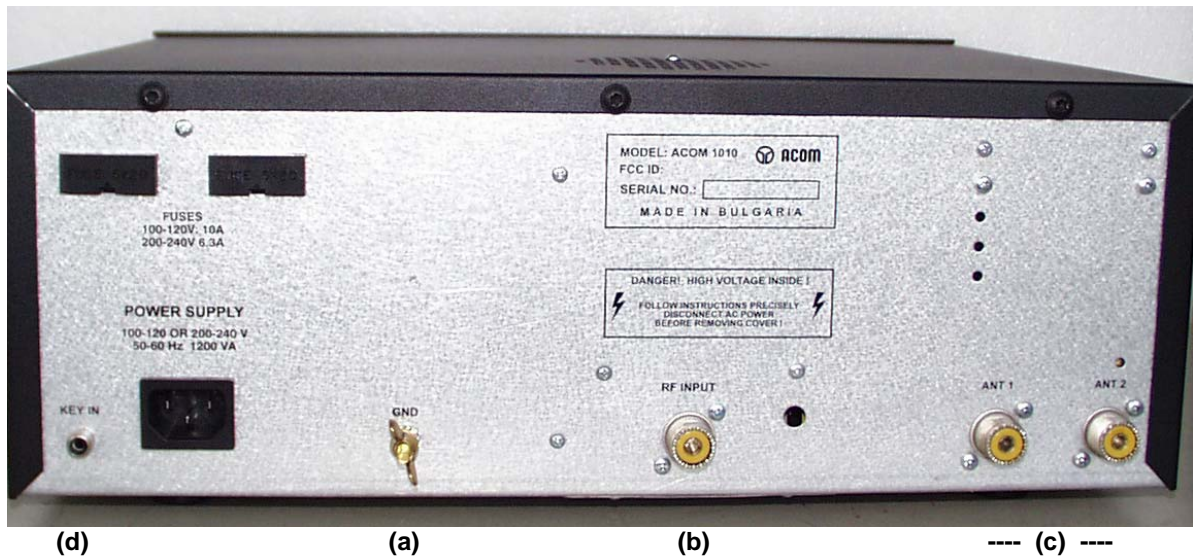

Fig. 2-1 Connections
a) Connect the station's grounding system to the wing-nut ground stud of the amplifier (on the rear panel, marked **GND** in Fig. 2-1).